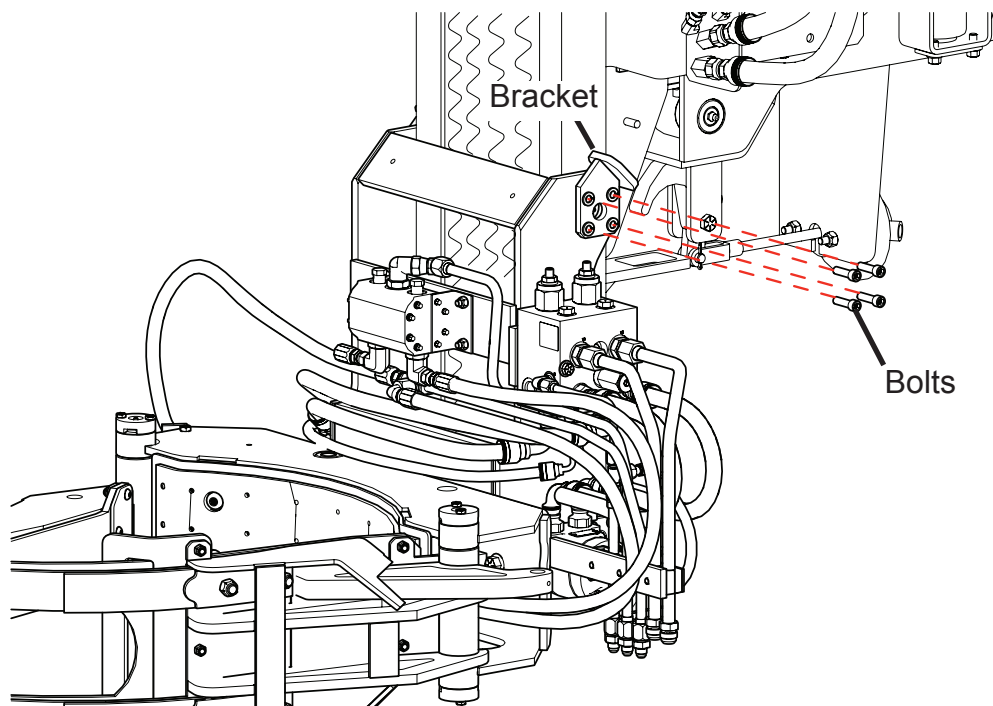

Figure 2
4. Remove and retain all four grabber roller sets that hold the grabber carriage assembly to the mast — Figure 2 shows one of the top sets and Figure 3 shows the bottom sets. A set consists of a roller, bracket, and bolts (and proximity switch flag bracket if installed).